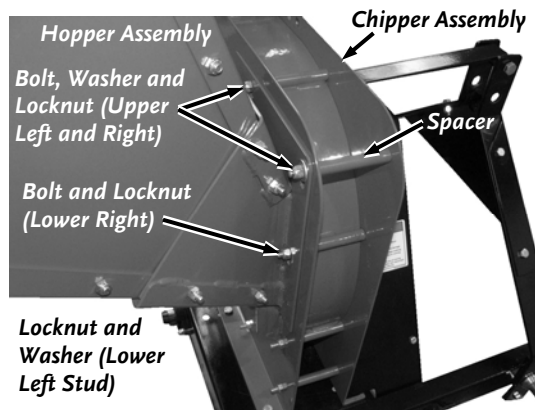

Figure 5
2. Position the Hopper Assembly onto the Housing Support and Stud and secure the two upper Bolts to the Hopper Assembly with two 5/16-18 Locknuts and Washers using two 1/2" Wrenches. (**Figure 5**).